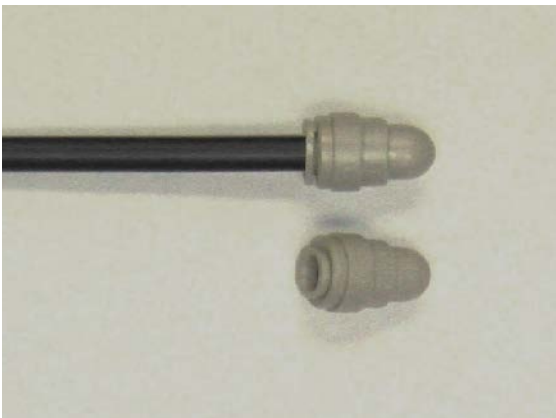

Figure 2
6.3 Use Tubing Cutter to trim / clean cut ends of all incoming and outgoing tubes. Install Tube Caps on all exposed tubes. The Tube Cap is a push-fit device so ensure it is fully seated and firmly attached to the tube end. **See Fig. 2.**